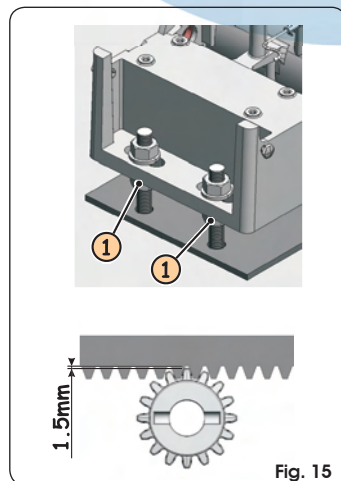

Fig. 15
- After you have finished installing the rack, to ensure correct meshing with the pinion, we advise you to lower the position of the gearmotor by about 1.5 mm (Fig. 15).